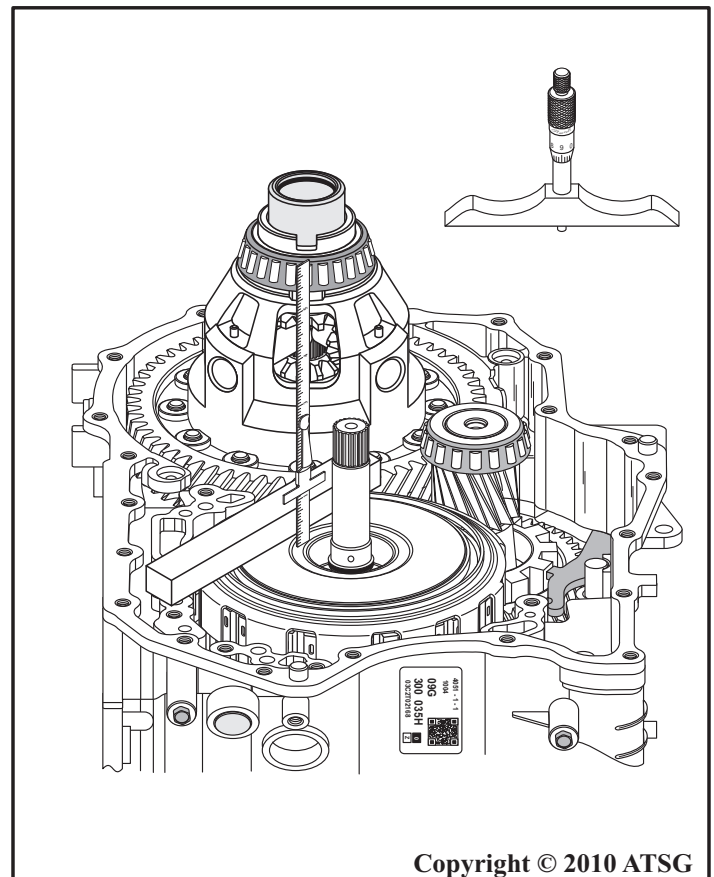

Figure 68
39. Measure the distance from case pump surface to the washer surface on the K3 clutch housing, as shown in Figure 68, using a straight edge and ruler, or a depth micrometer.